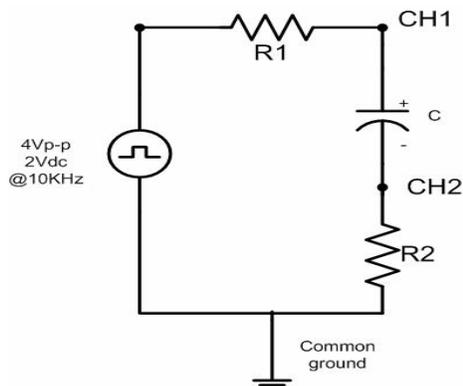

Fig.7-4
1. Assemble the circuit in Figure 7-4 with the component values shown in Table 7-4.